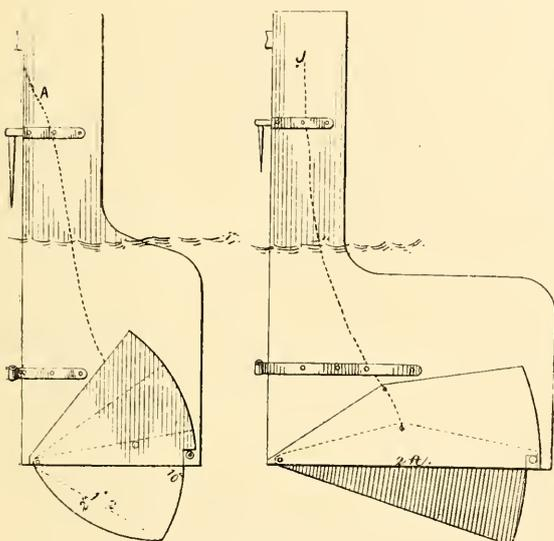

FIG. 320.
**Rudder Board, A.**—Capt. Lowther, R.N., introduced the plan shown by Fig. 320 for increasing the area of rudders of shallow boats. Mr. W. Baden Powell uses a form of this rudder for the Nautilus canoes. This idea is not a new one.